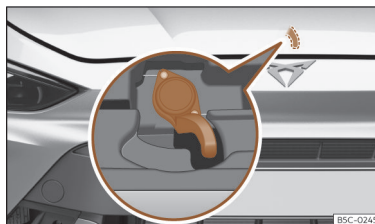

Fig. 216 Lever under the bonnet.
- To lift the bonnet, press towards the left on the lever located under the bonnet, in the centre >>> **Fig. 216 ②**. The fastening hooks are unlocked.